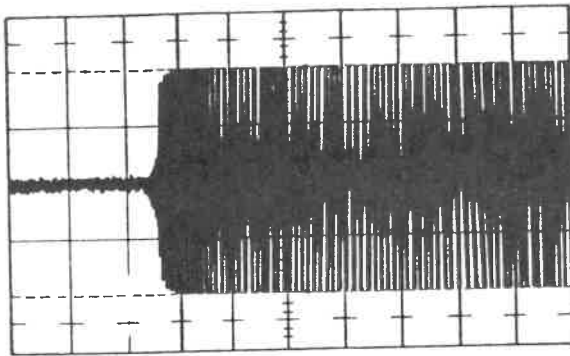

FIGURE 3-8. Head Settling Waveform
4. Observe that data on Channel B reaches 90% of full amplitude in less than 16 milliseconds at Track 1 (Figure 3-8).